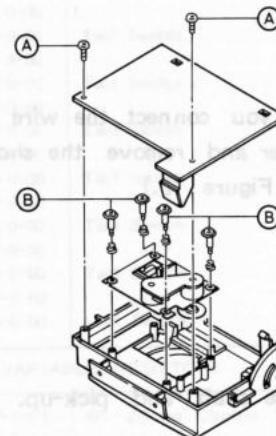

Figure 8
2. Remove two screws **(A)** holding the CD PCB. (See Figure 8.)
3. Remove four screws **(B)** holding the CD mechanism. (See Figure 8.)